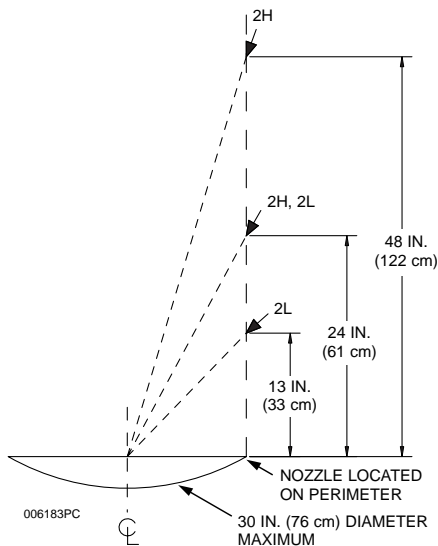

Figure 3-7
The 2H nozzle, Part No. 551028, is used for high proximity wok protection. This nozzle is a two (2) flow nozzle. The nozzle must be located **anywhere on the perimeter** of the appliance, 24 in. to 48 in. (61 to 122 cm) above the top edge of the wok and aimed at the center of the wok. See **Figure 3-7**.
The 2L nozzle, Part No. 551027, is used for low proximity wok protection. This nozzle is a two (2) flow nozzle. The nozzle must be located **anywhere on the perimeter** of the appliance, 13 in. to 24 in. (33 to 61 cm) above the top edge of the wok and aimed at the center of the wok. See **Figure 3-7**.